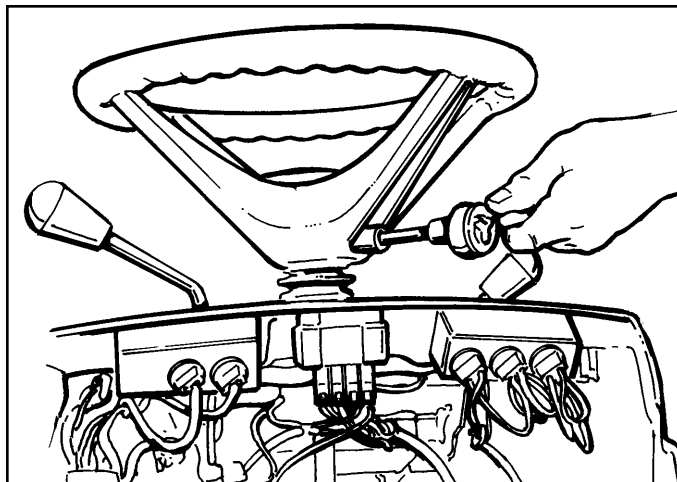

Figure A-19. Remove Steering Wheel Hardware
- 1A. Remove the steering wheel by disassembling the hex head bolt and hex nut that secure the steering wheel to the steering shaft assembly (Figure A-19).